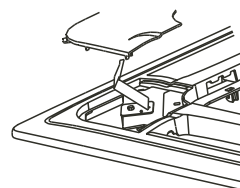

fig.4-14
Wrench off the bolts, loose the rope of the installation covers, and remove them. (Refer to Fig.4-14)
- 5) Regulate the panel in the direction of the arrow in fig.4-14 slightly to fit the panel's center to the center of the ceiling's opening. Guarantee that hooks of four corners are fixed well.